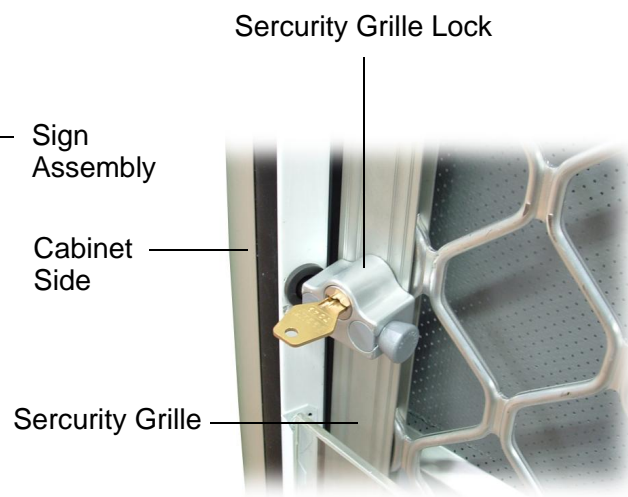

Figure 9: Security Grille Lock
4. Engage both the lock bolts and lock with the security key (see Figure 9 below).